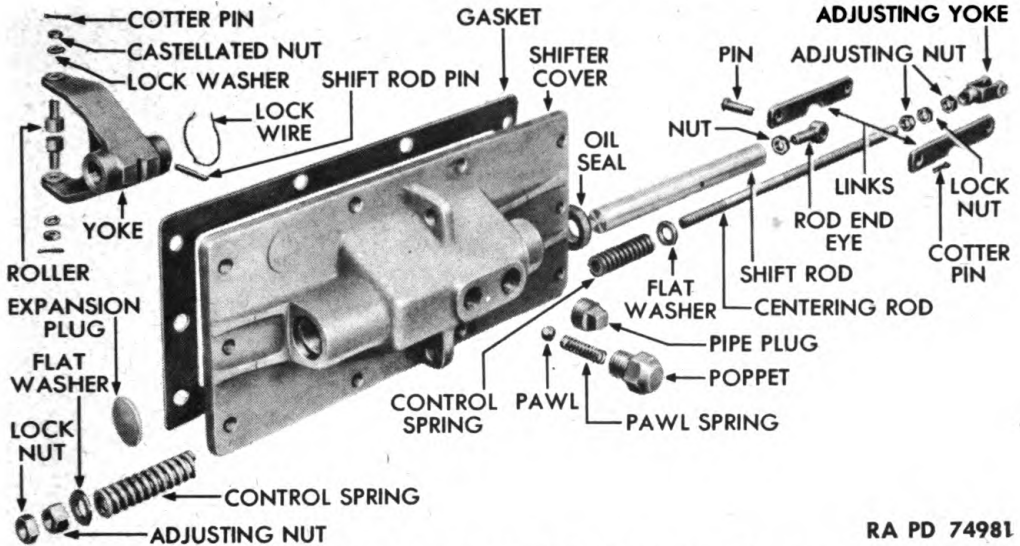

Figure 44 — Shifter Cover and Shift Rod — Disassembled
(1) **REMOVE LINKS AND CENTERING ROD** (fig. 44). Remove cotter pin and rod end pin which secures the two links to shift rod and remove links. Remove lock nut, adjusting nut, flat washer, and control spring from one end of centering rod, and remove rod from cover. Remove second control spring, flat washer, adjusting yoke, two adjusting nuts, and lock nut from rod.
(2) **REMOVE SHIFT ROD** (fig. 44). Remove poppet from cover and remove pawl spring from poppet, then turn shifter cover and allow pawl to drop out. Remove lock wire from shift rod pin, slide shift rod to one side, and drive shift rod pin from rod and yoke, working through poppet hole in cover. Pull shift rod out of shift yoke and cover, and remove yoke from cover. Remove rod end eye from shift rod.
(3) **REMOVE ROLLERS AND YOKE** (fig. 44). Remove cotter pins from castellated nuts which hold two rollers in position at ends of
(1) **INSTALL YOKE ROLLERS AND YOKE** (fig. 44). Install new oil seal in cover. Drive two yoke rollers into ends of yoke, and lock each roller in position with a castellated nut and cotter pin. Position shift yoke in cover. Install rod and eye in end of shift rod, and slide shift rod through cover and yoke.
(2) **INSTALL SHIFT ROD PIN** (fig. 44). Slide shaft and yoke to one side so that shift rod pin can be driven through poppet holes in cover; then drive shift rod pin through yoke and rod, and lock pin with lock wire.
(3) **INSTALL PAWL AND CENTERING ROD** (fig. 44). Center yoke in cover, drop pawl in place, install pawl spring in poppet hole, and screw poppet into cover over pawl. Install two adjusting nuts, one lock nut, and adjusting yoke on one end of centering rod. Then place one flat washer and control spring on rod, and slide rod through hole in shifter cover. Install remaining control spring and flat washer over open end of rod, and install adjusting nut and lock nut. Turn adjusting nuts so that control springs hold centering rod securely in a centered position on cover. Secure two links to shift rod with a rod end pin and cotter pin.